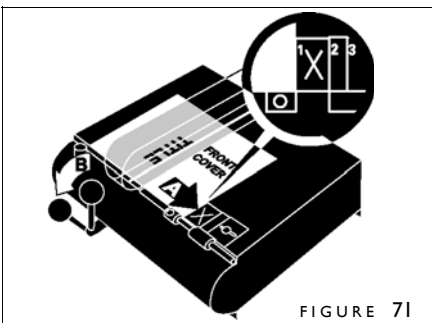

FIGURE 71
5. Bring the Lever upright to unclamp the cover. Slide your cover over so its right edge (A) stops against step 1 (figure 71). Push the Lever to the left (B) to score.